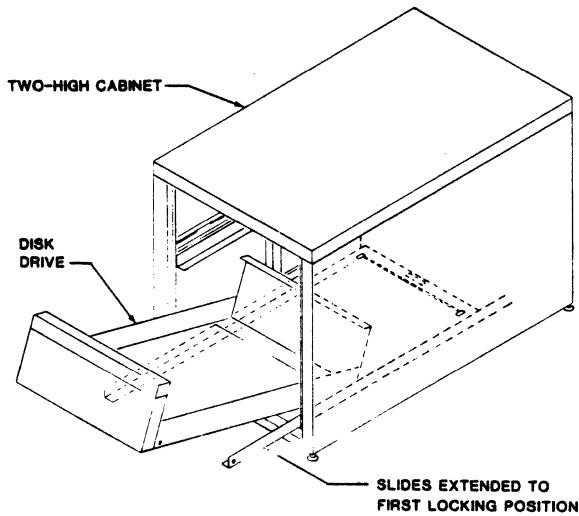

Figure 7-18. Disk Drive to Cabinet Installation
2. Extend the bottom drawer slides to the first locking position (see Figure 7-18) and then with two persons, insert the disk drive as deep into the cabinet as possible.